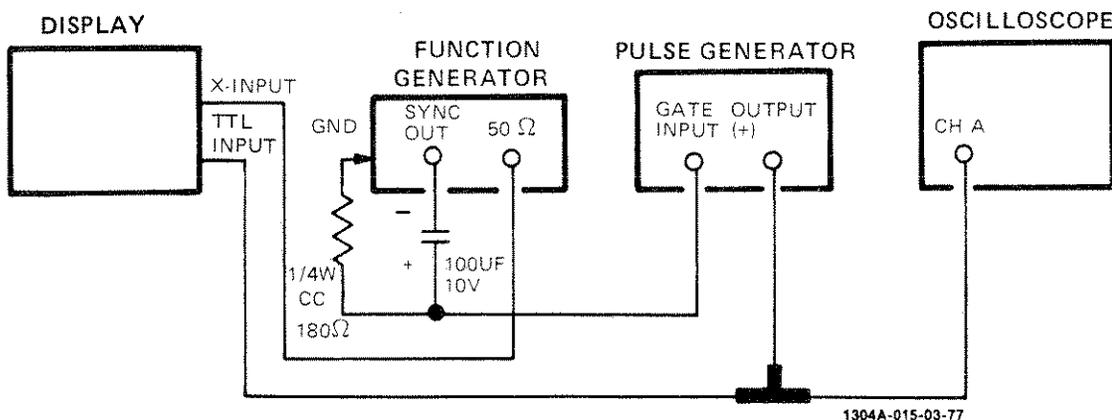

Figure 4-7. Option 216 Test Setup
- a. Connect equipment as shown in figure 4-7.
Sync output from the recommended function generator (table 1-4) must be shifted to gate the pulse generator. The R-C network shown in figure 4-7 shifts the output level from the function generator so that stable gating of the pulse generator is assured.